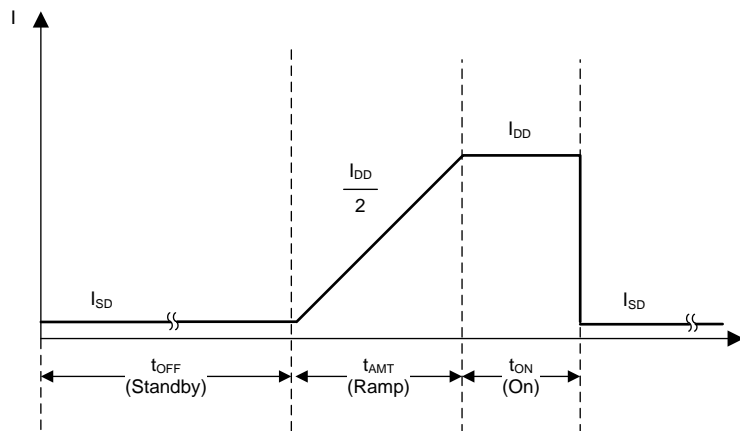

Figure 31. LDC0851 Supply Current vs. Time During Duty Cycle Operation
In order to achieve 10 year lifetime out of a single CR2032 battery, the enable pin (EN) of the LDC0851 can be duty cycled to achieve a low average supply current. Refer to Figure 31 to see the three different states of LDC0851 supply current during duty cycle operation. The sum of the Standby, Ramp, and On currents can be used to calculate the average supply current of the LDC0851, which needs to be below 2.5 μA to achieve a 10 year lifetime from a 220 mAh CR2032 battery.